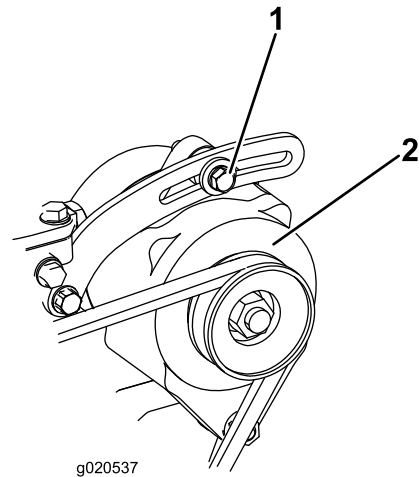

Figure 97
1. If the deflection is not 10 mm (3/8 inch), loosen the alternator mounting bolts (Figure 97).